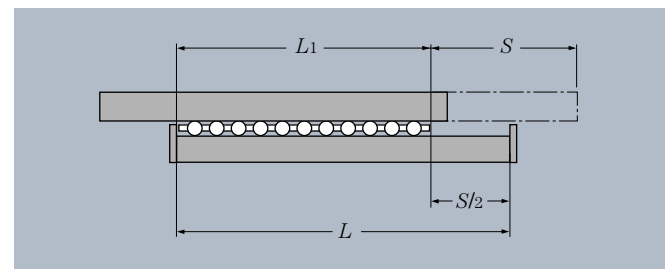

**Fig. 1**
① Where raceway surface hardening not allowed, a quenched spring plate may be used.
② Mounting accuracy is expressed with an inclination value in **Fig. 1**.